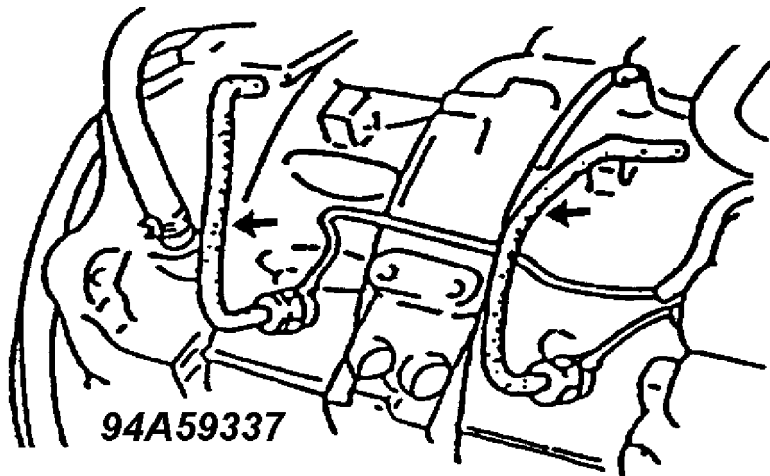

Fig. 58: Location of Vacuum Tubes
30. Replace the two vacuum tubes with new ones. See Fig. 58.